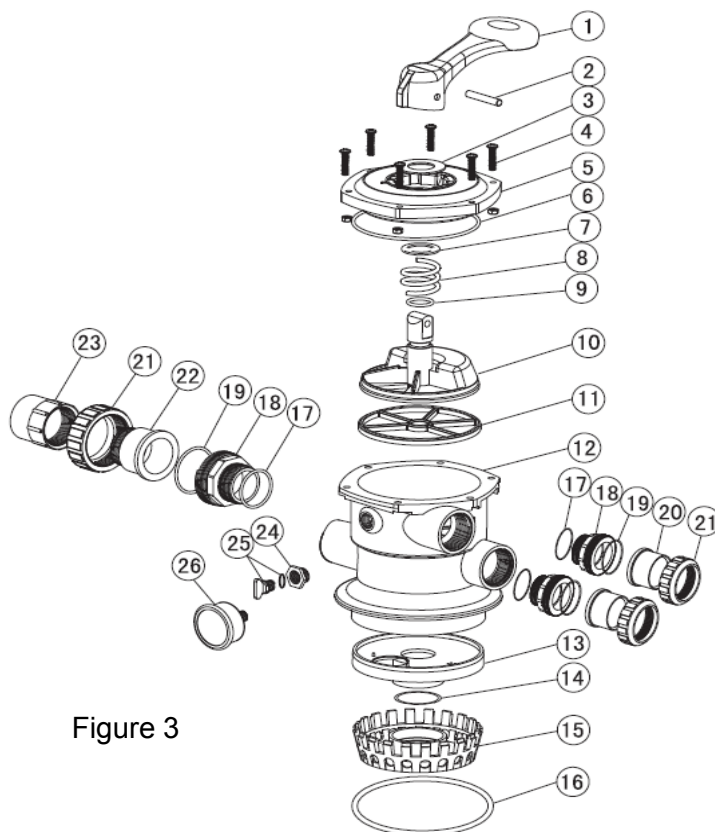

Figure 3
2. Item No.7-Washer for spring is damaged.	2. Replace item No.7 washer for spring.(Please see Figure 3)
2. If it was damaged please replace it.(See Figure 3, Item No.11-Spider Gasket).